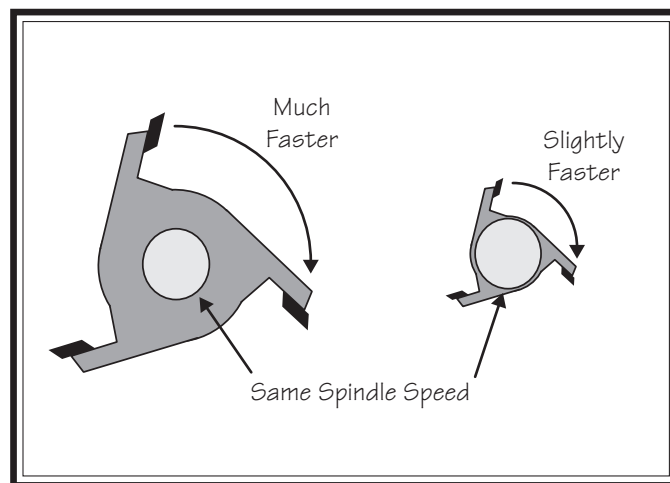

Figure 34. Relative speeds of cutter knives at the same spindle speed.
- Use slower speeds for larger cutters because the knives on the outside of the cutter rotate faster on larger cutters than on smaller cutters for the same spindle speed (see **Figure 34**).